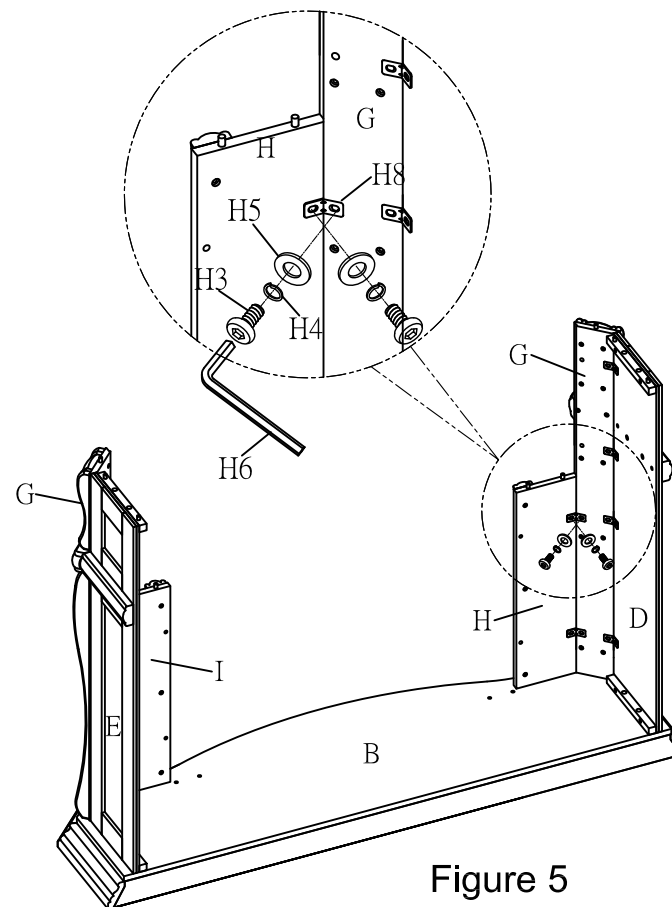

Figure 5
Attach the Left Support (H) to Post (G) using Bracket (H8), Short Bolt (H3), Spring Washer (H4), Flat Washer (H5) and Allen Wrench (H6) as shown in Figure 5. The trim of Left Support (H) should face the front and be tenon side up. DO NOT fully tighten bolts at this time. Attach Right Support (I) using the same process.